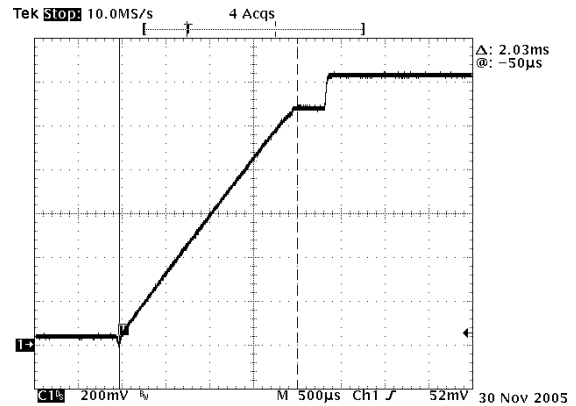

Figure 28. VR11 Startup
The controller supports two different startup routines. An AMD ramp to the initial VID code, or a VR11 Ramp to the 1.1 V VID code, with a pause to capture the VID code then resume ramping to target value based on an internal slew rate limit. See Figures 28 and 29. The controller is designed to regulate to the voltage on the SS pin until it reaches the internal DAC voltage. The soft-start cap sets the initial ramp rate using a typical 5.0 μA current. The typical value to use for the soft-start cap (SS), is typically set to 0.01 μF . This results in a ramp time to 1.1 V of 2.2 ms based on Equation 1.